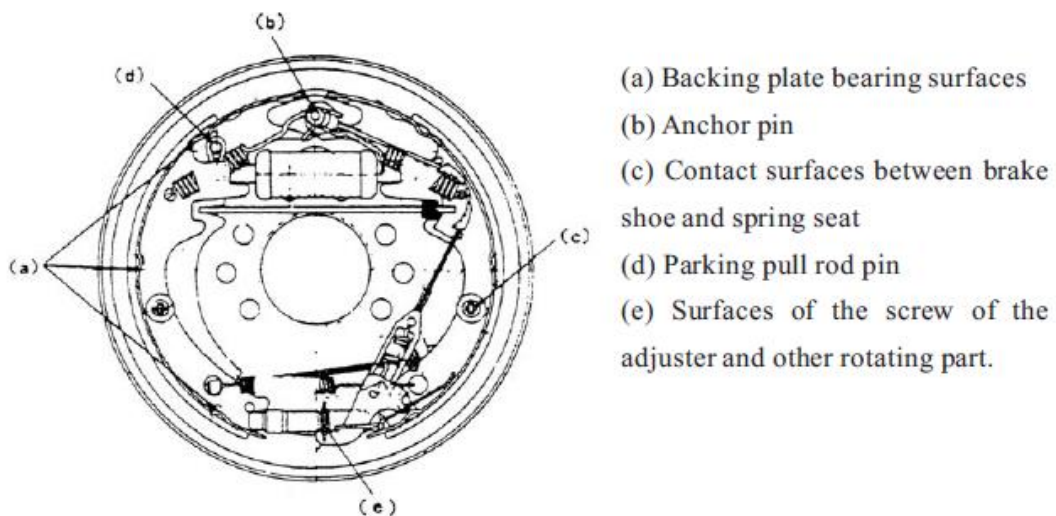

Fig. 2-20
(1) Apply brake fluid to the piston and the piston cup, and reinstall the spring, cup, the piston and the dust cover in this order.
(2) Install the operating cylinder on the backing plate.
(3) Install the backing plate on the front axle.
(4) Apply heat-resisting grease on the points indicated in Fig. 2-20, with care not to contaminate the friction piece with grease.